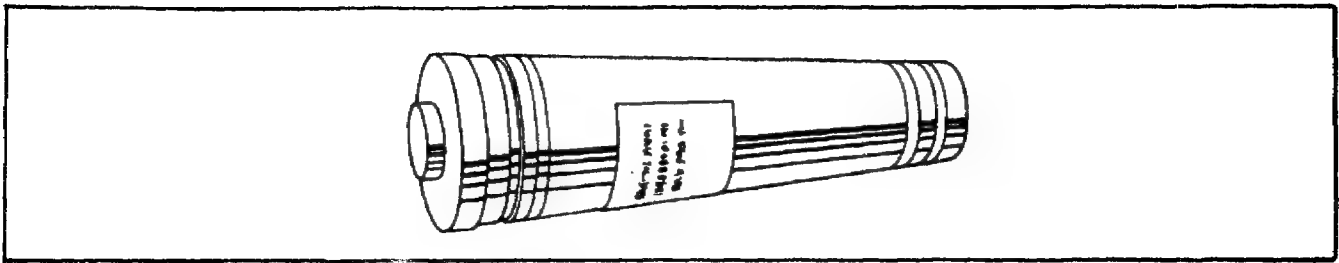

Figure 100. Aircraft Parachute Flare.
**Aircraft Parachute Flares.** Aircraft parachute flares (Figure 100) are launched or dropped from aircraft to provide illumination in support of tactical operations. They function like artillery and mortar illumination cartridges. A parachute and illuminating charge are ejected. The illuminant is ignited and descends by parachute. Aircraft parachute flares are unpainted aluminum with black markings.